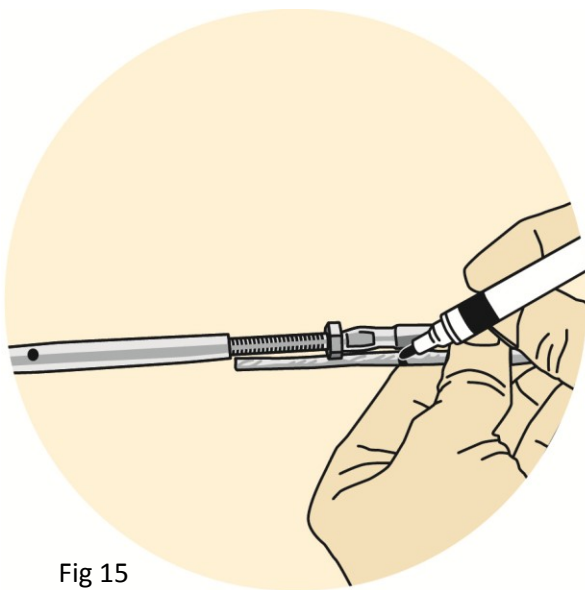
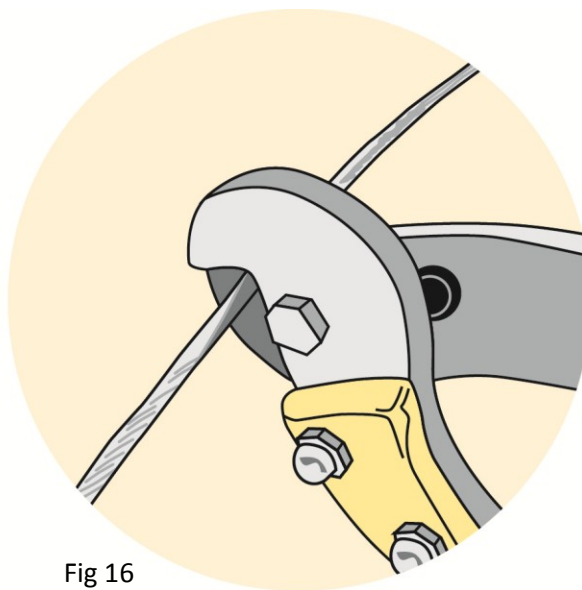

Fig 15
Fig 16
- b) Pull all slack out and hold cable adjacent to the Classic Ball Turnbuckle/Swage Ball End and mark the cable where it matches mark on the fitting (Fig. 15). Cut cable to its final length (Fig. 16).